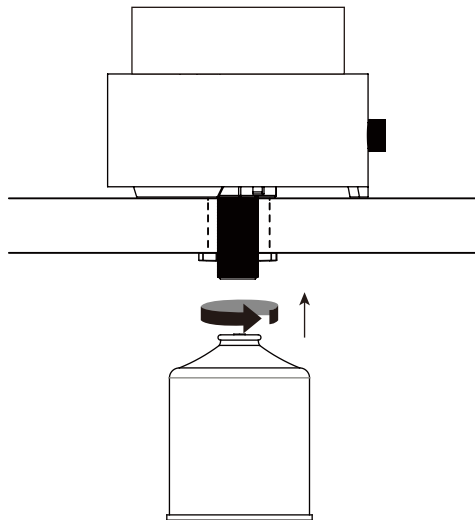

Figure 5
- (1). Before connecting, be sure there is no debris caught in the head of the burner or burner or burner ports.
- (2). Make sure the control knob is in the “OFF” position. Lubricate the threads of the regulator with petroleum jelly.
- (3). Line up threads on the gas cylinder with regulator.
- (4). Insert the gas cylinder.
- (5). Rotate the cylinder clockwise until they fit snugly together. **HAND TIGHTEN ONLY.** Be careful not to cross thread when screwing in cylinder (see Figure 5).
- (6). Perform leak test per “Checking for Leaks” section.